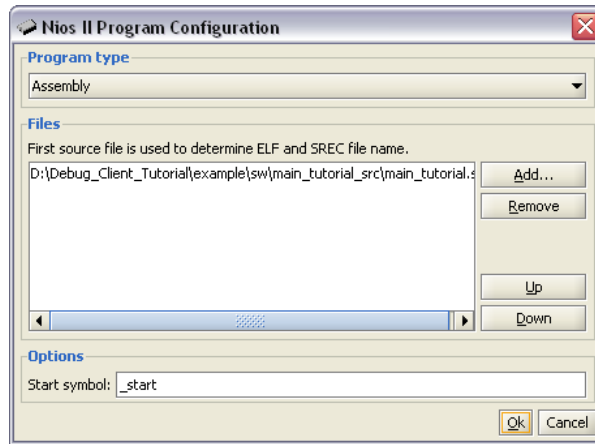

Figure 13. Nios II Program Configuration window configured for the example program.
4. Your program configuration should appear as depicted in Figure 13. Click **OK** to save the program configuration.